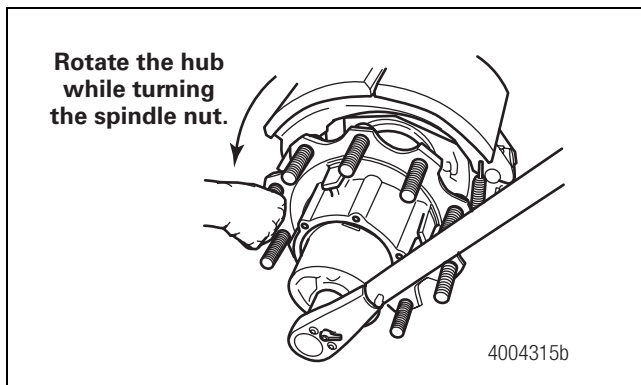

Figure 9
7. Tighten the spindle end nut to 810-850 lb-ft (1100-1150 N•m) while rotating the wheel and hub in a **COUNTERCLOCKWISE** direction. Do not back off the nut after tightening. Mark the nut location relative to the spindle. Figure 9. **🔧**